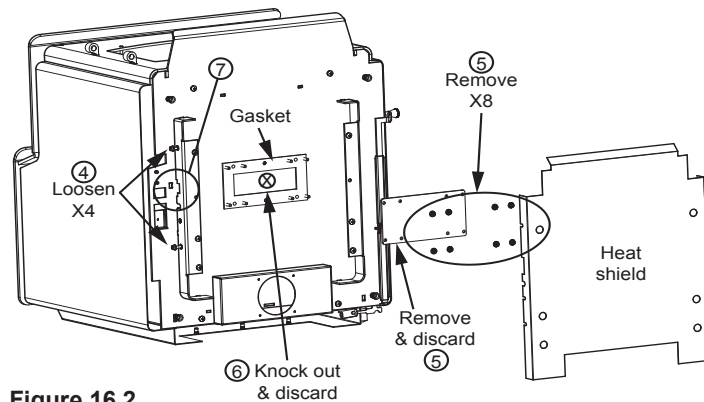

Figure 16.2
3. Lay appliance on its back on a protective pad or pallet (**Figure 16.2**).
4. Remove heat shield by loosening the four bolts using 3/8 open end wrench (**Figure 16.2**).
6. Remove knock out from bottom of firebox by using a hammer (**Figure 16.2**).